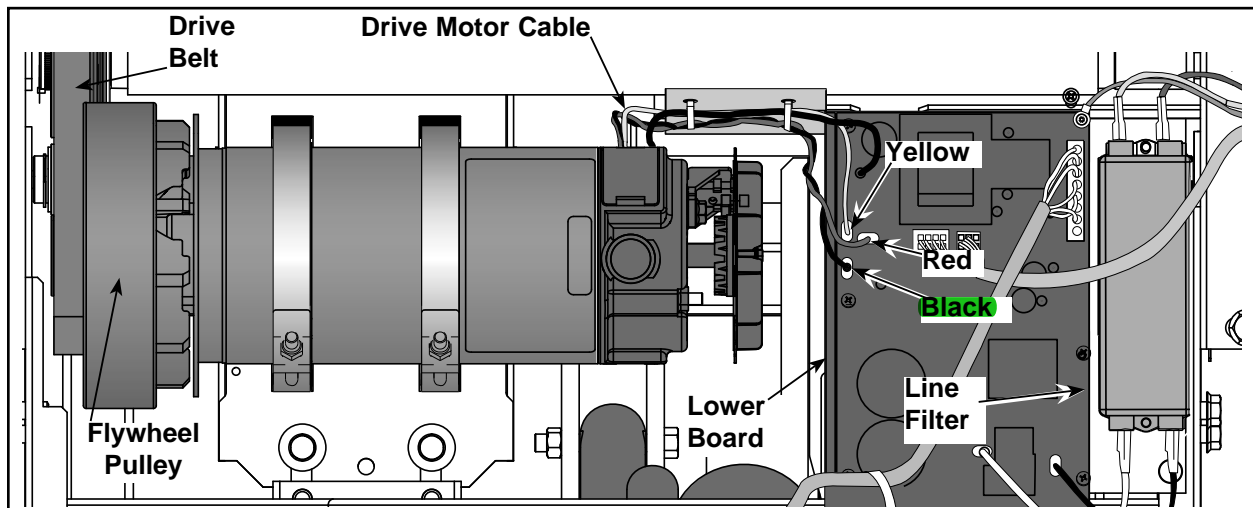

Figure 14
- B. Slip the drive belt around the flywheel pulley and off the motor. See Figure 14.
NOTE: You will disconnect three wires (red, **black** and yellow). See Figure 14.
- A. Connect the motor cable to the lower board as shown in Figure 14 (red to A1, black to A2, yellow to BW).